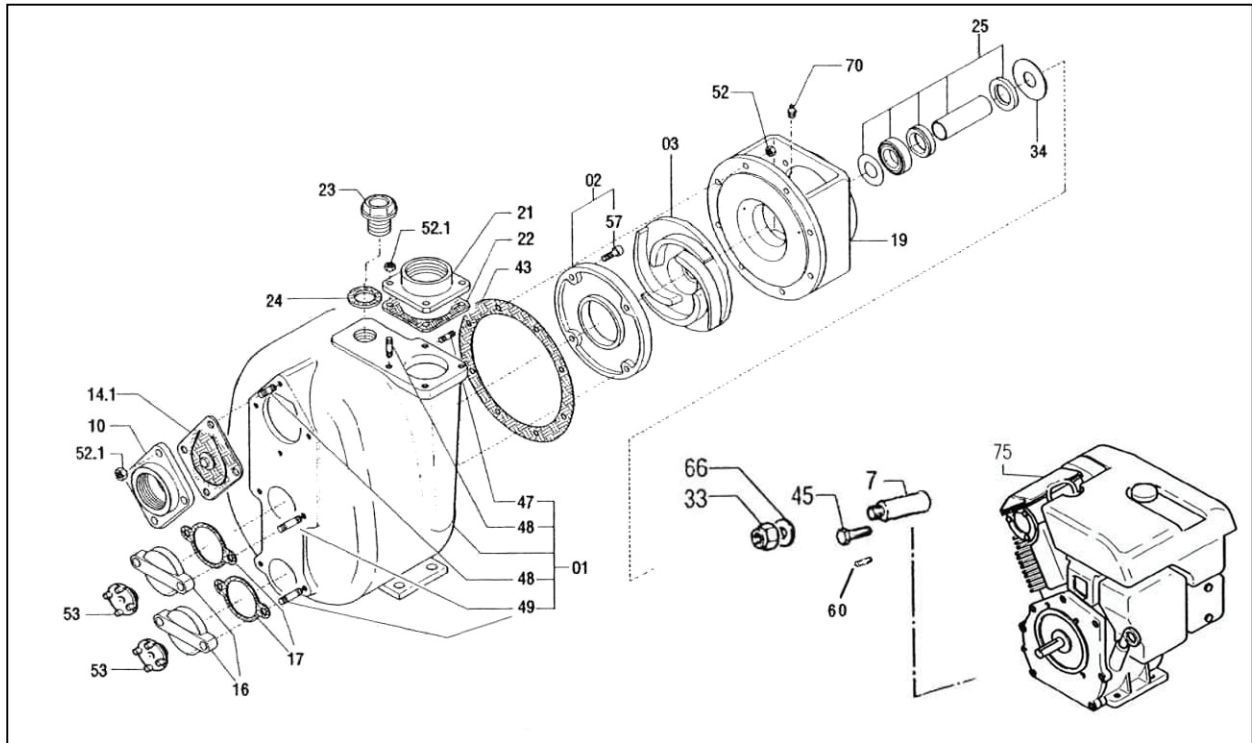

Figure 46
9.3.6 Casing Assembly (figure 46, #01)
1. Drain the casing (figure 46, #01) through the drain plug (figure 46, #16).
2. Unscrew the nuts (figure 46, #52) and remove the pump casing (figure 46, #01), taking care not to damage the casing gasket (figure 46, #43).
3. Replace the pump casing (figure 46, #01).